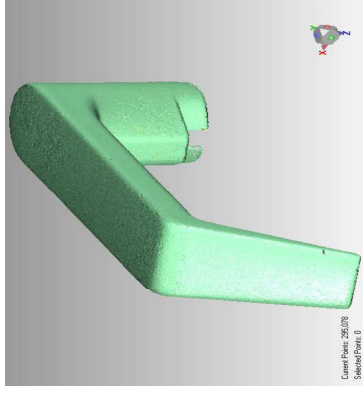

Figure 47
2. **Rotate** to the view shown in **Figure 47**. Using the defaults,